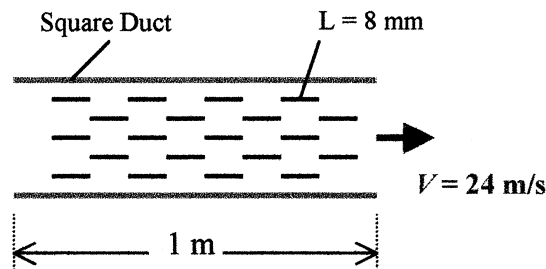

Fig. P7.25
**7.25** Consider the smooth square 10 by 10 cm duct in Fig. P7.25. The fluid is air at 20°C and 1 atm, flowing at  $V_{\text{avg}} = 24 \text{ m/s}$ . It is desired to increase the pressure drop over the 1-m length by adding sharp 8-mm-long flat plates across the duct, as shown. (a) Estimate the pressure drop if there are no plates. (b) Estimate how many plates are needed to generate an additional 100 Pa of pressure drop.